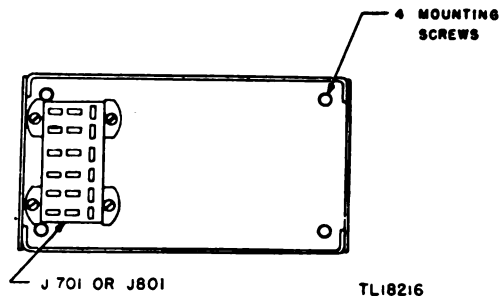
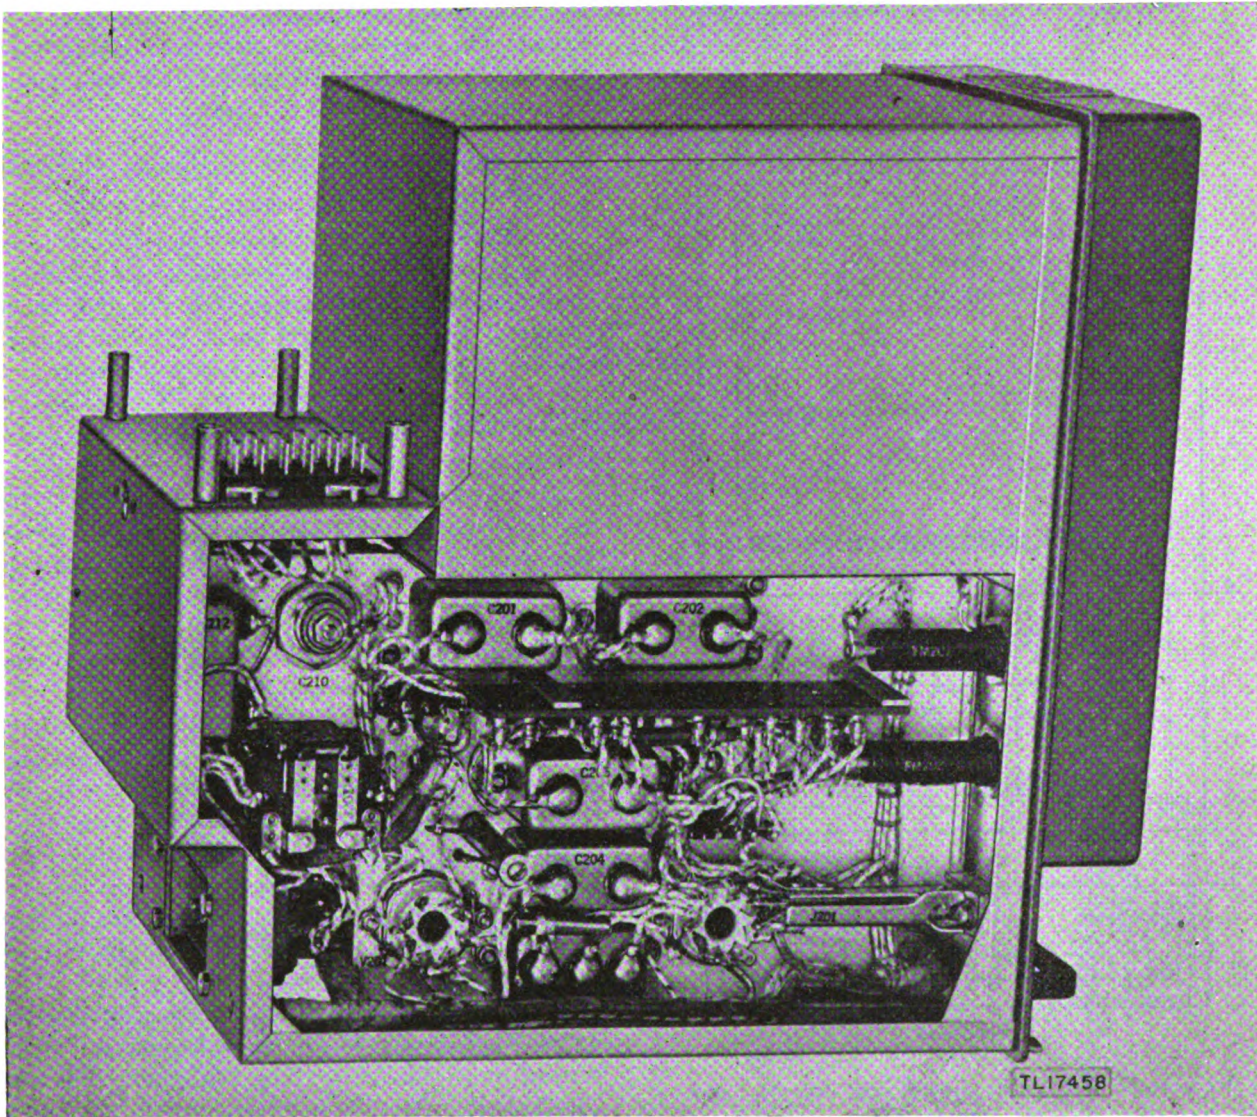

Figure 8. Dynamotor DM-34(*) or DM-36(*), location of mounting bolts.
Figure 9. Interphone Amplifier BC-605-(*), left-side, interior view.
b. **DYNAMOTOR REMOVAL.** Release the four mounting bolts in the corners of the dynamotor sub-base (fig. 8) and pull the dynamotor (figs. 6 and 7) up from the dynamotor plug PG202 (fig. 9, upper left).
(4) Clean and inspect dynamotor plug PG 202 on the chassis (fig. 9), in the same manner as described in (3) above, with one exception: this plug (PG202) must be tight in its mounting.
(5) Blow out dust, loose dirt, sand, or gravel from the interior of the amplifier, and remove mud or other foreign matter. Be careful not to cause damage when using a cloth to wipe parts. If corrosion is found, clean as completely as possible, taking care not to leave rust, metal scrapings, or filings in the chassis assembly. Lacquer all parts that have been scraped clean. If the operation of parts has been affected by corrosion, replace the parts.
(10) Clean the relay S201 (figs. 9 and 11) with dry-cleaning solvent (SD), using the small camel's-hair brush. Closely examine the relay contacts for burning or pitting. Remove slight burns and pits by burnishing. See paragraph 10 if the relay contacts are *badly* burned or pitted.
b. **DYNAMOTOR.** Replace the dynamotor by plugging it into plug PG202 (fig. 9, upper left). Press down firmly; avoid any twisting or tilting motion. Securely tighten the four mounting bolts at the corners of the dynamotor sub-base (fig. 8).